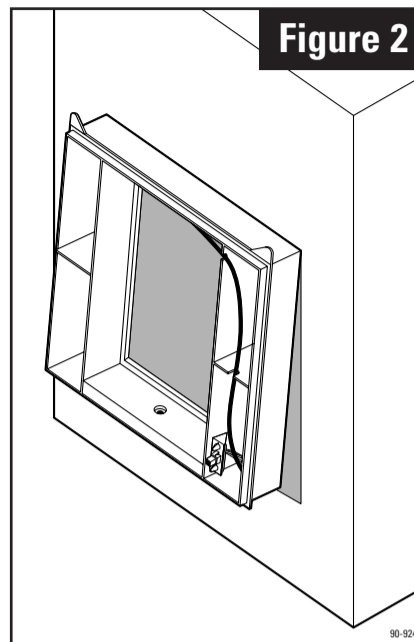

Figure 2
**3.** Position the two plastic hooks on the top of base along the top edge of the plenum opening. Push base up to engage the two hooks and sheet metal along the top edge opening. Push base in and slide down so that the bottom four hooks engage the sheet metal at the bottom edge of the opening. Secure base to opening using top three screw holes in housing. An additional hole is provided at the bottom for securing the base to the plenum. (See Figure 2)